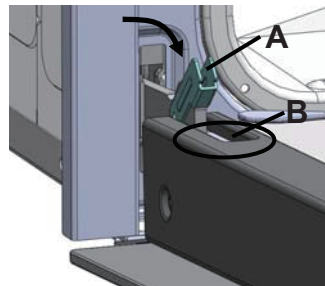

Fig. 2
- Open the lever A completely on the left and right side hinges (Fig. 2);